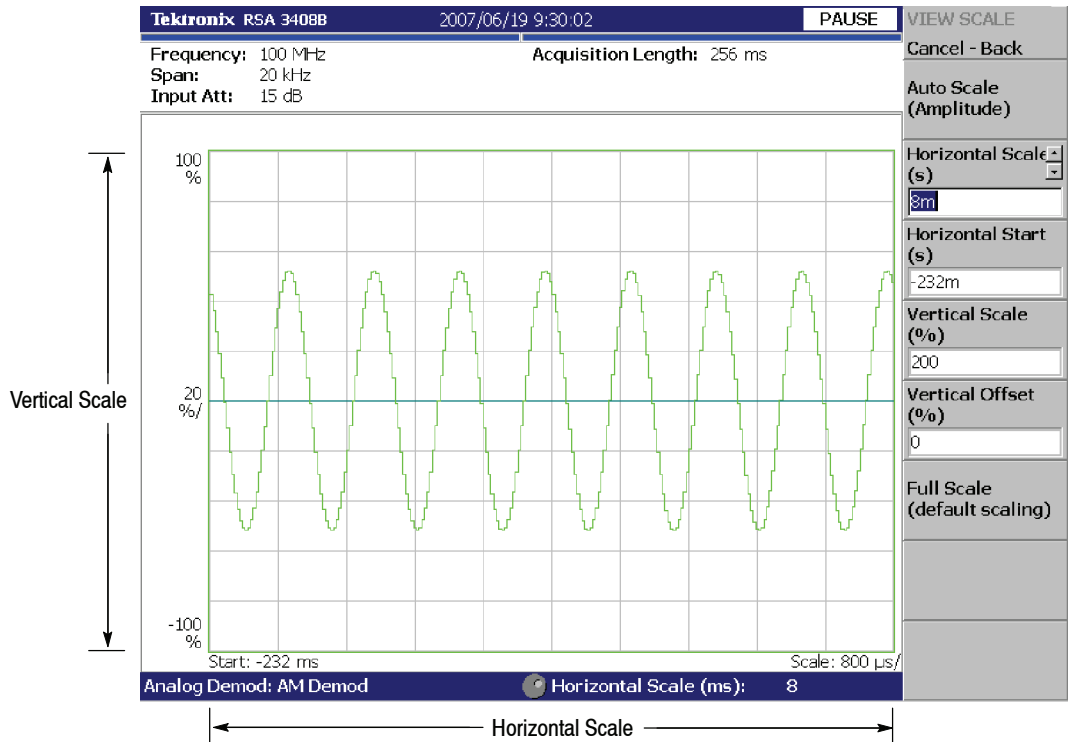

Figure 2-56: Scale settings
- c. Press the **Horizontal Scale** side key and change the scale of the horizontal axis (see Figure 2-56).